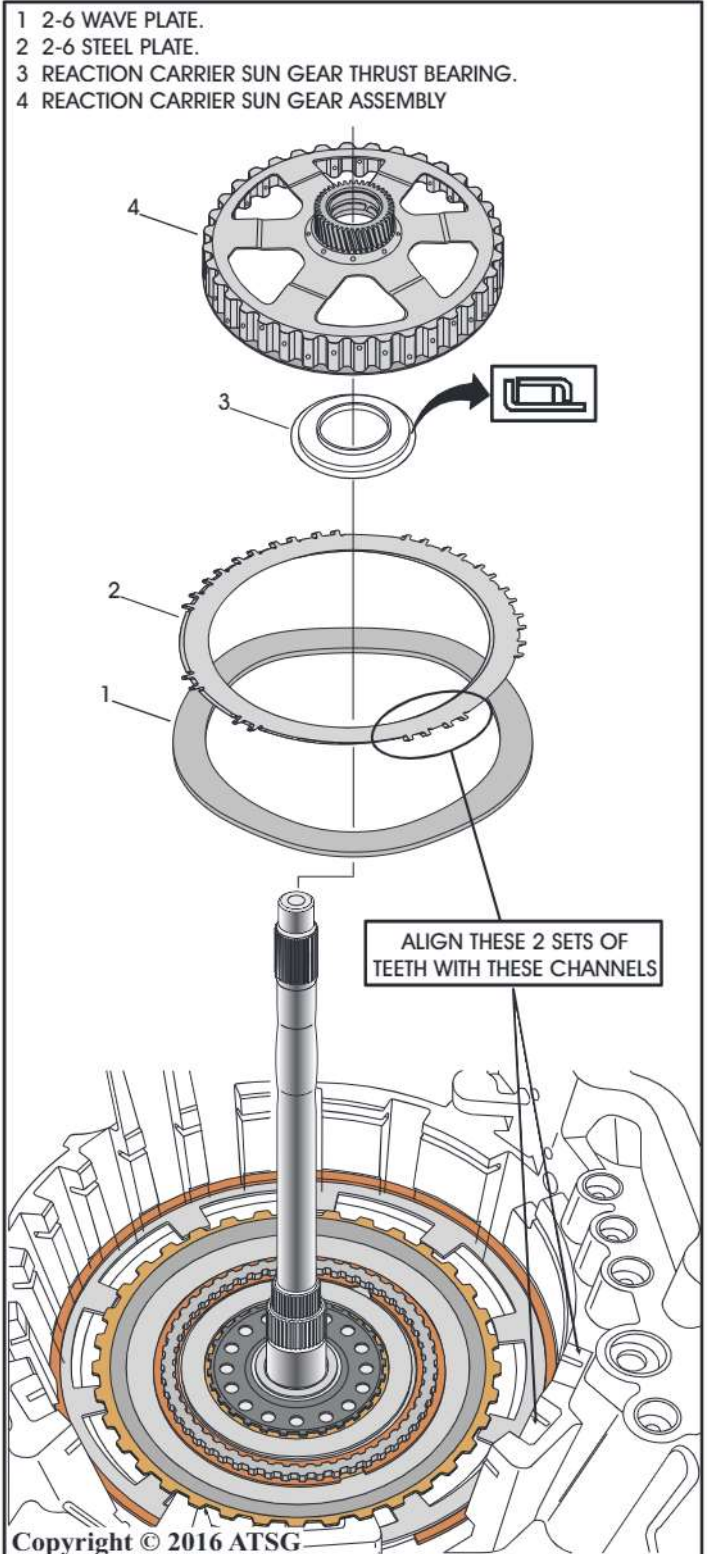
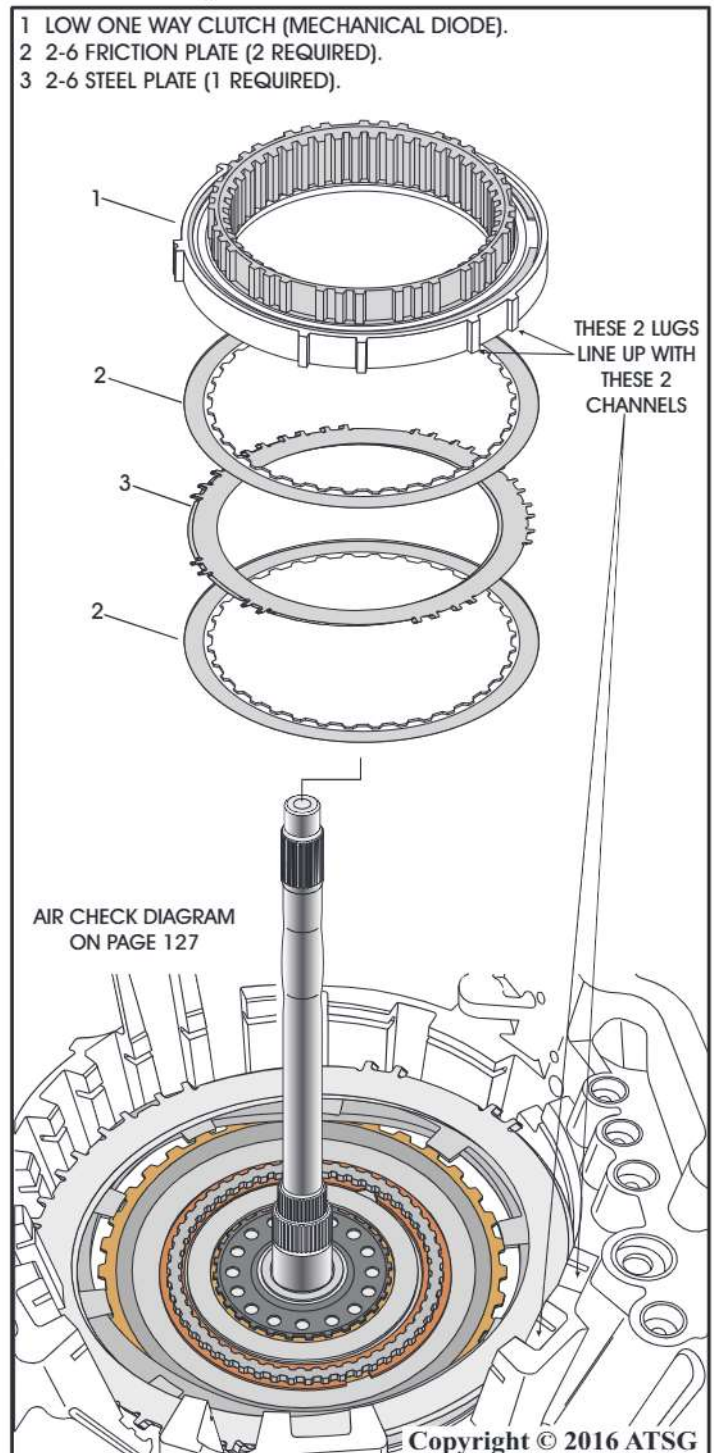

Figure 154
Figure 156
46. Install the 2-6 wave plate and one 2-6 steel plate as shown in Figure 154.
47. Install the reaction carrier sun gear thrust bearing on top of the 4-5-6 clutch hub as seen in Figure 154.
48. Install the reaction carrier sun gear assembly as seen in Figure 154.
50. Install the remainder of the 2-6 clutch pack by placing a 2-6 friction plate on top of the previously installed 2-6 steel plate, followed by a 2-6 steel plate, following the previous tooth orientation seen in Figure 154, and finally another 2-6 friction plate as shown in Figure 156.
51. Install the low one-way clutch assembly following the orientation shown in Figure 156. Make certain it goes all the way down against the 2-6 clutch pack.